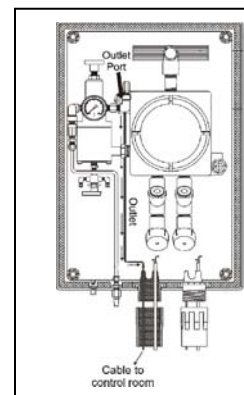

Figure 4
- 2.2.5 Use tubing to connect the outgoing cable from the control room to the outlet port of the Heated Regulator (see Figure 4).